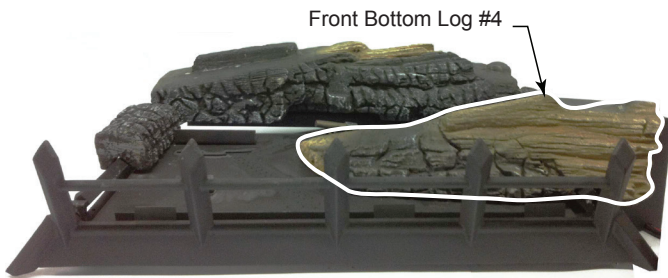

Figure 38
4. Place front bottom right log (#4) on right pin located on burner and right grate bar. *Figure 38*